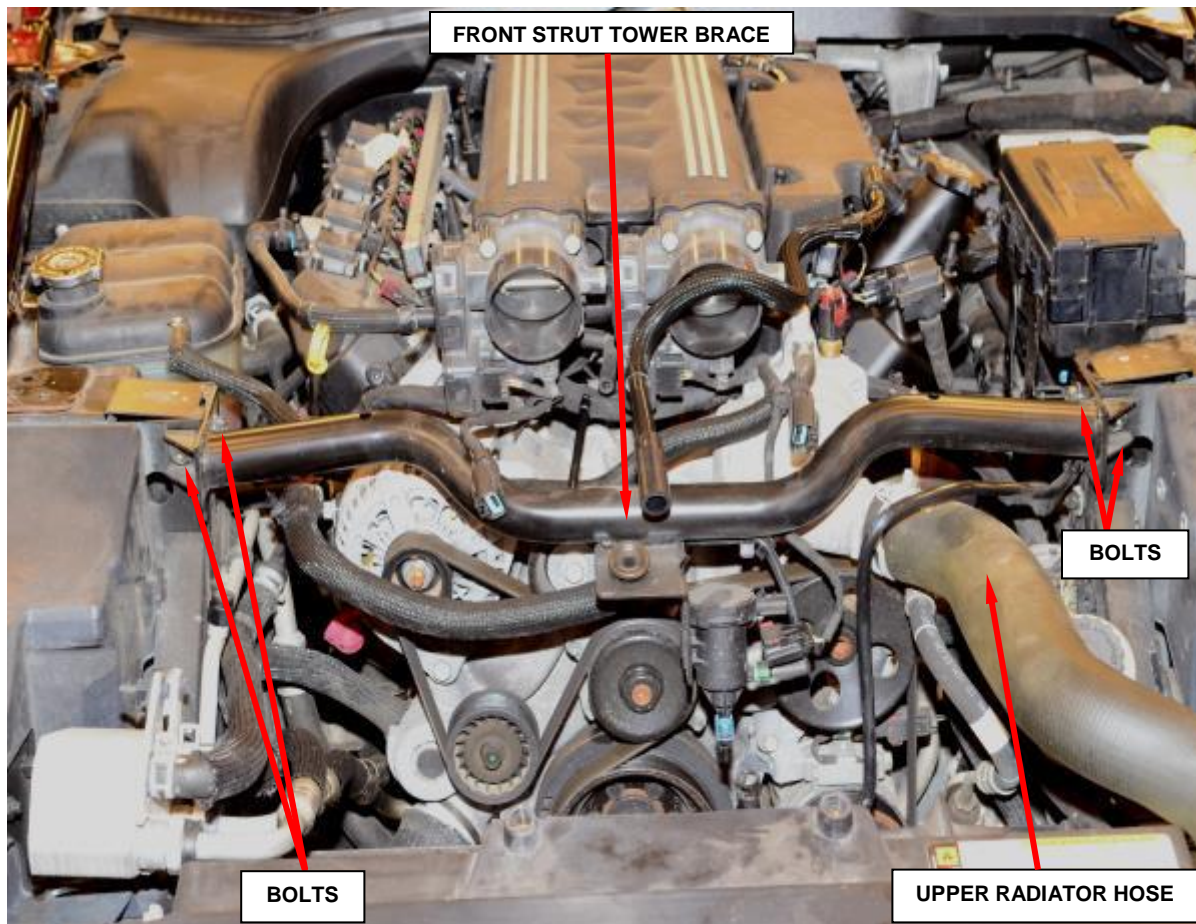

Figure 18 – Front Strut Tower Brace
16. Remove the four front strut tower brace retaining bolts and remove the brace (Figure 18).
17. Remove the upper radiator hose from the engine (Figure 18).